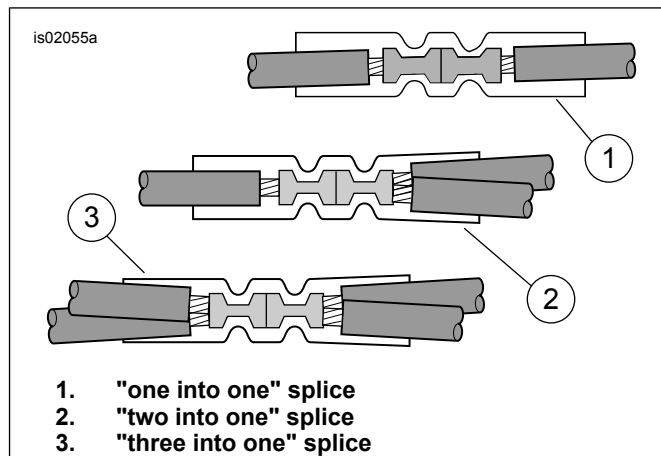
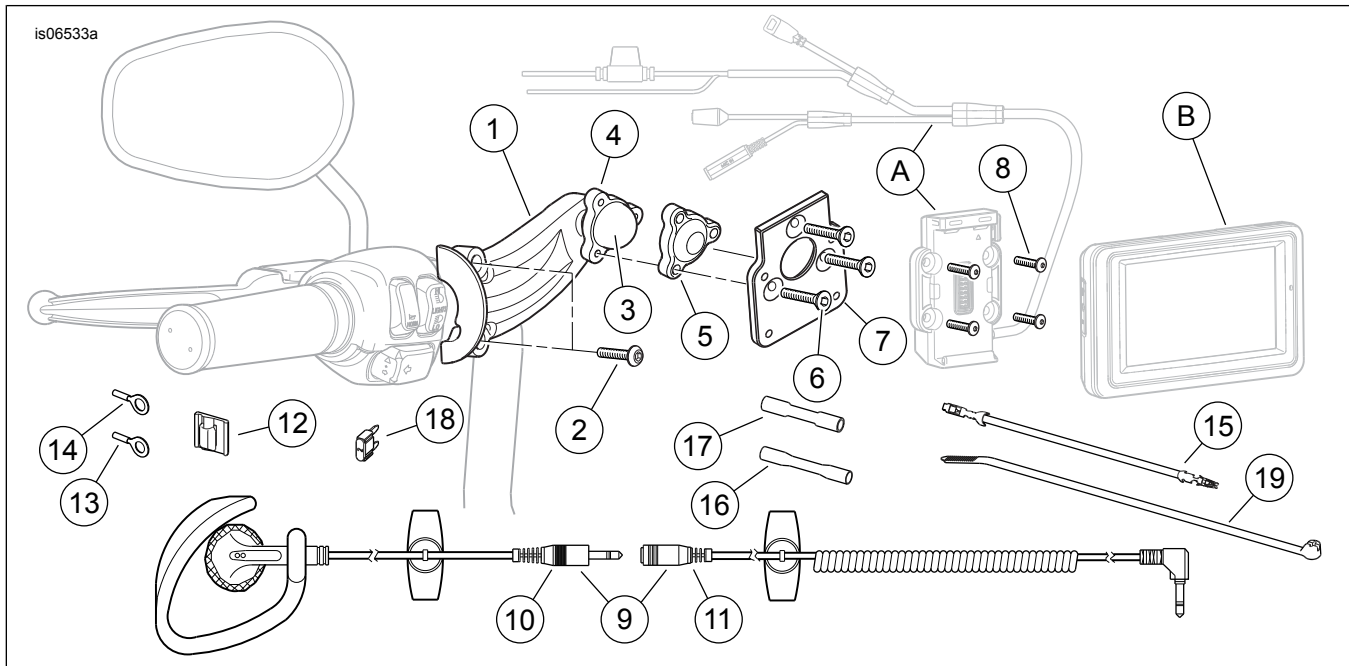

Figure 6. Splice Configurations
Figure 16. Service Parts, Road Tech Zumo 660 and Zumo 665 GPS Handlebar Mount Kit
4. See Figure 16. Get the blue sealed splice connector (17) from the kit. See Figure 6. the "two into one" splice configuration. Splice the Zumo wire harness power lead to the main harness orange/white wires per the instructions in the service manual appendix.
- See Figure 16. Get the blue sealed splice connector (17) from the kit. See See Figure 6., the "one into one" splice configuration. Splice the Zumo wire harness power lead to the adapter wire per the instructions in the service manual appendix.
- Install the 2A fuse (18) from the kit into the "OPEN" fuse cavity to complete the circuit.
- See Figure 16. Get the blue sealed splice connector (17) from the kit. See Figure 6., the "two into one" splice configuration. Splice the Zumo wire harness power lead to the cut orange/white wires per the instructions in the service manual appendix.
- See Figure 16. Get the blue sealed splice connector (17) from the kit. See Figure 6, the "one into one" splice configuration. Splice the Zumo wire harness power lead to the adapter wire per the instructions in the service manual appendix.
3. See Figure 16. Get the blue sealed splice connector (17) from the kit. See Figure 6, the "two into one" splice configuration. Splice the Zumo wire harness power lead to the main harness orange/white wires per the instructions in the service manual appendix.
6. See Figure 16. Cut the excess length from the orange/white Zumo harness wire. Using the blue sealed splice connector (17) from the kit, splice that wire to the adapter wire installed in Step 4.
7. Install the 2A fuse (18) from the kit into the fuse cavity marked "P&A IGN", "2A MAX" to complete the circuit.
- **Up to three accessories can be spliced to the electrical connection harness.** For multiple splice configurations See Figure 6.
3. See Figure 16. Get the blue sealed splice connector (17) from the kit. See Figure 6. the "two into one" splice configuration. Splice the Zumo wire harness power lead to the main harness orange/white wires per the instructions in the service manual appendix.
4. Install the 2A fuse (18) from the kit into the fuse cavity to complete the circuit.